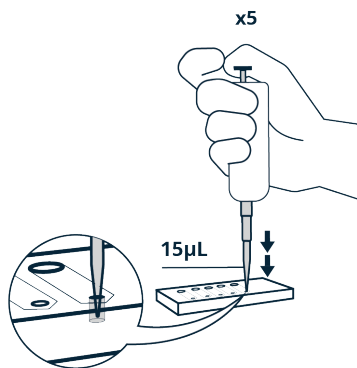

Figure 1. Add 15µL of media to each inlet port.
4. Carefully insert the tip into the inlet port (the inlet port is the smaller of the ports). Hold the micropipette in a vertical position and apply gentle pressure to achieve a seal. Do not allow the micropipette to “bottom out,” which can hinder free flow of solution. Inject the sperm wash solution into the inlet port to fill the channel and outlet port (Figure 1). Do not trap air bubbles in the device.